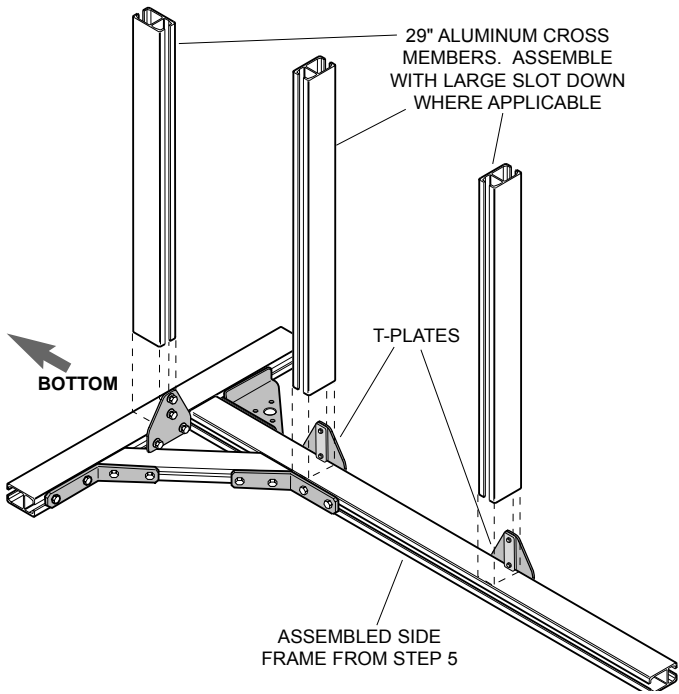

Figure 6.
- Lay one side frame flat and slide three 29" long cross members into T-plates. Slide cross members tight against side frame members and securely tighten track nut bolts (Fig 6).